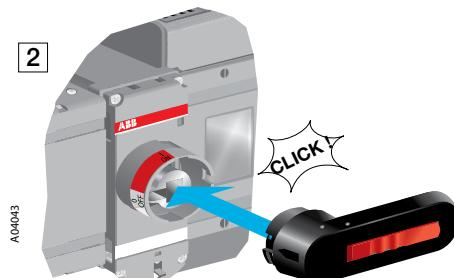

Figure 6.6 Attaching the handle
2. Attach the handle by pressing it to the switch panel until it clicks into place, see Figure 6.6. You can attach the handle in both positions (I or 0).